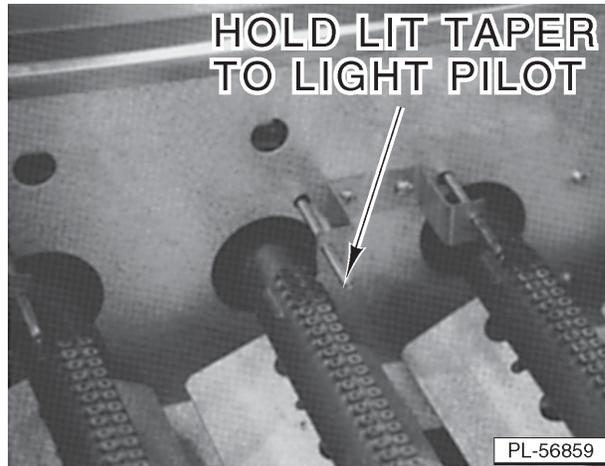

Fig. 4
2. Wait 30 seconds and, using a lighted taper, light the pilots. The pilot for each burner must be lit (Fig. 4).